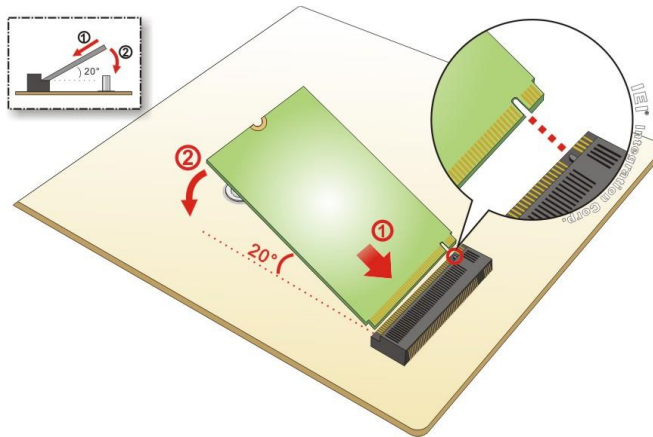

Figure 4-2: Inserting the M.2 Module into the Slot at an Angle
- Step 3:** Line up the notch on the module with the notch on the slot. Slide the M.2 module into the socket at an angle of about 20° (**Figure 4-2**).